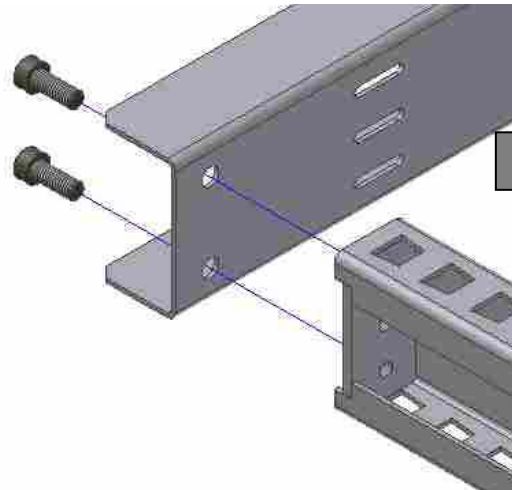

Fig 14
STEP 4b – Screw the **top profile** to the **grooved bars** with 2 **M8x20 DIN 912 Allen screws** (Fig. 14)